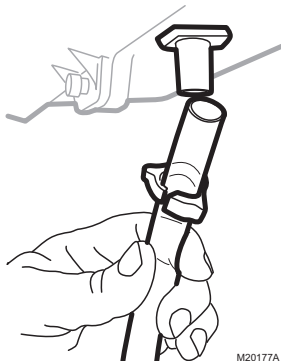

Fig. 9. Installing the drain tubing.
4. Use the following steps to install a 1/2 in. (13 mm) drain tube between the humidifier and the floor drain (see Fig. 9).